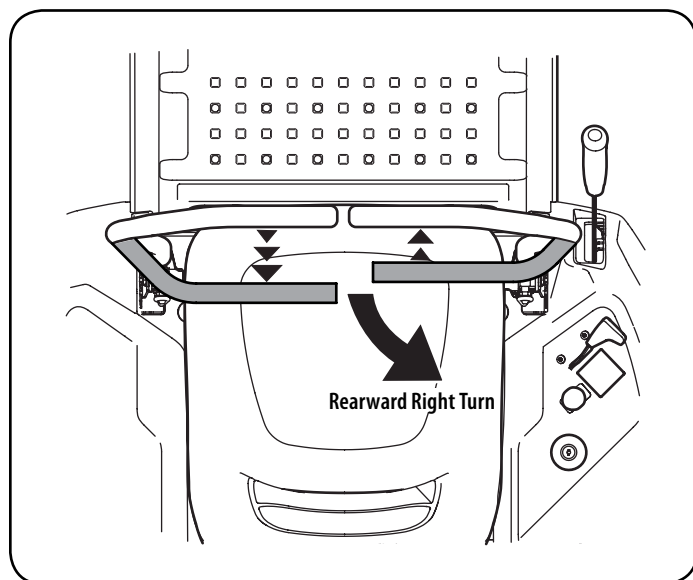

Figure 15
3. To turn to the right while traveling in reverse, move the right drive control lever forward of the left lever. See "Figure 15".